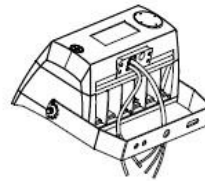

Figure 6
- Step 2. Install the two small screws (Figure 6).